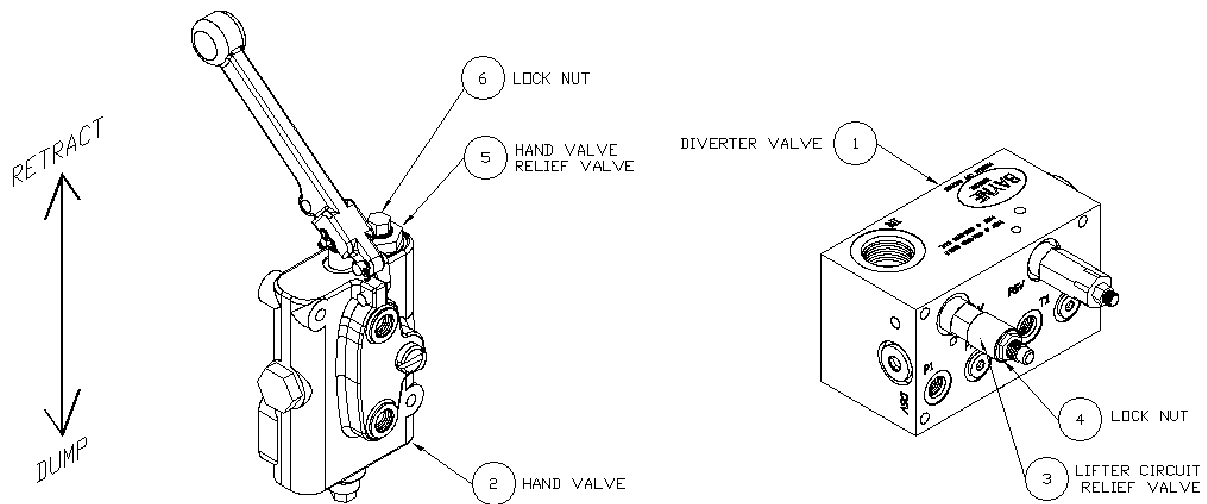
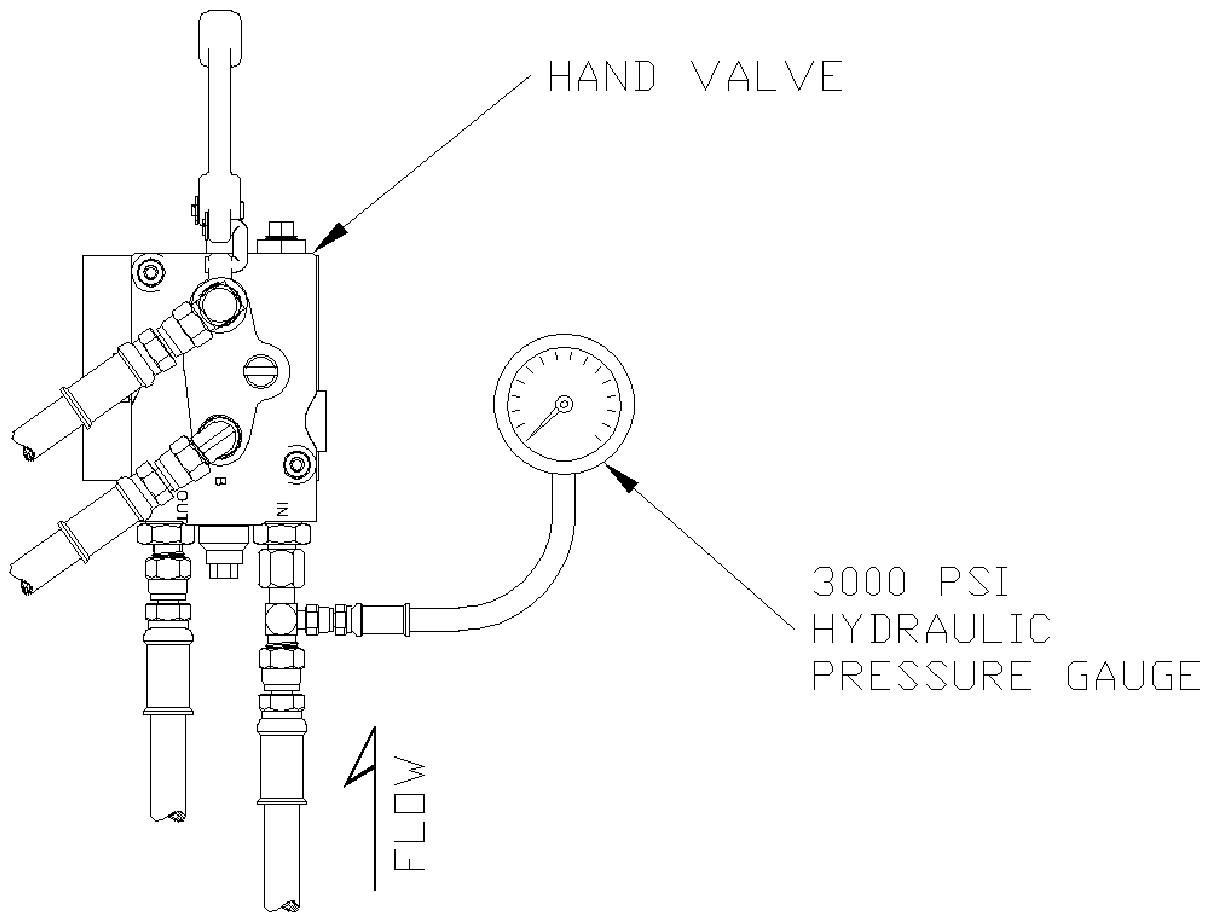

figure I-4
figure I-5
The diverter valve (1) (figure I-4) supplies the cart lifter hydraulic system with approximately 2 GPM of oil flow. This diverter valve is equipped with a full system relief valve (4) set at 2500 psi, to protect the truck's hydraulic system from any blockages that may occur down stream of the diverter valve. The diverter valve also includes a lifter circuit relief valve (3) set at 2300 psi, to prevent the diverter valve from shutting down if a blockage occurs in the lifter circuit. There is also a relief valve (5) set at 1800 psi in the hand valve (2) to protect the lifter from excessive pressure. These relief valves are preset from the factory to operate properly on most trucks with a system pressure between 2300 and 2500 psi without any adjustment. However, if any adjustment is necessary, follow these instructions.
2. Loosen the lock nut (6) (*figure I-4*) from the hand valve relief valve(s) (5) and turn the adjustment screw(s) clockwise until it bottoms out.
3. Loosen the lock nut (4) (*figure I-4*) on the lifter circuit relief valve (3) and turn the adjustment screw clockwise until it bottoms out.
5. Operate the handle on the hand valve (2) (*figure I-4*) back and forth a few times to bleed all air from the lifter hydraulic system.
7. Install the 3000 psi hydraulic pressure gauge with the necessary adapter in the hydraulic line connected to the "IN" port of the hand valve as shown in figure I-5. *If installing dual lifters, install the hydraulic gauge at either one of the hand valves.*
- a) Have an assistant hold the handle on the hand valve (2) (*figure I-4*) (*with pressure gauge installed at the "IN" port*) in the "retract" position to show pressure on the gauge.
- b) Turn the pressure relief adjusting screw on the lifter circuit relief valve (3) counter-clockwise until the pressure reading on the gauge is either 100 psi less than the truck system pressure or 2300 psi, which ever is the lowest.
- a) Hold the handle on the hand valve (2) (*figure I-4*) (*with pressure gauge installed at the “IN” port*) in the “retract” position to show pressure on the gauge.
- b) Turn the pressure relief adjusting screw on the hand valve relief valve (5) counter-clockwise until the pressure reading on the gauge is either 200 psi less than truck system pressure or 1800 psi, which ever is the lowest.
- f) *For dual lifters, install the hydraulic pressure gauge in the “IN” port of the other hand valve as shown in figure I-5, start the truck’s engine, engage the hydraulic system, and repeat step 10.*
11. Tighten the lock nut (6) (*figure I-4*) on the hand valve relief valve(s) (5) to secure the correct pressure setting(s).
12. Tighten the lock nut (4) (*figure I-4*) on the lifter circuit relief valve (3) to secure the correct pressure setting.